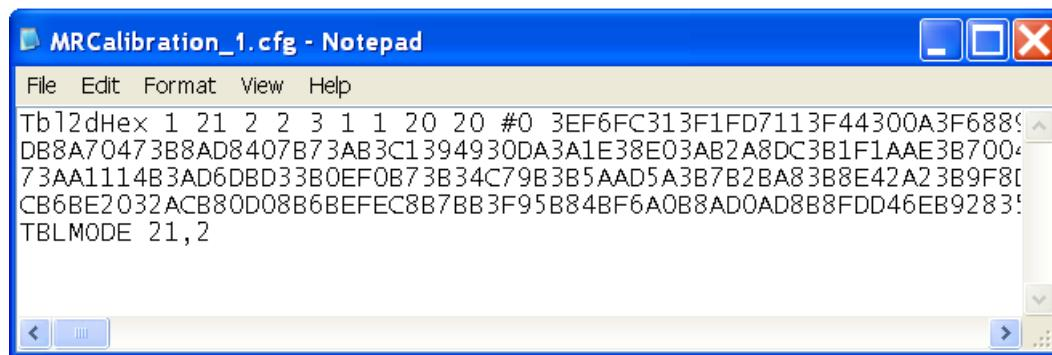

Figure 10: MR calibrated configuration file for the TTO Hot thermometer
1. Open the new MR calibrated *.cfg file located under <\\QdPpms\Tools>. (Figure 10).